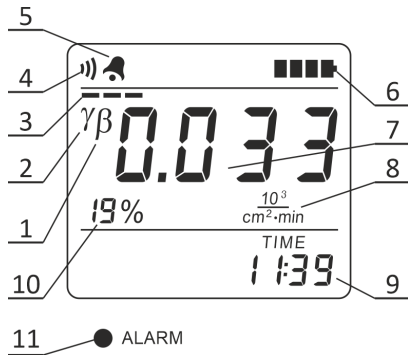

Figure 2.9 – LCD of the radiometer
2.3.3.7.8 When measuring characteristics of beta radiation, the LCD of the radiometer displays the following information (Figure 2.9):
- the estimated limit of statistical deviations (10) of the measurement result (7);
- " $\beta$ " symbol (1) - an indication of the measured radiation type;
- " $\gamma$ " symbol (2) - is displayed if measurement takes place without consideration of gamma radiation component;
- instantaneous value indicator (3);
- sound symbol (4) (if sound signaling of registered gamma quanta and beta particles is switched on);
- alarm clock symbol (5) (if the alarm clock is on);
- battery status symbol (6);
- measurement result (7);
- dimension of measurement result (8)  $10^3/(\text{cm}^2 \cdot \text{min})$ , cps or faded away, if the dimension is  $\text{Bq}/\text{cm}^2$ ;
- current time (9).
If surface activity measurement is carried out in  $\text{Bq}/\text{cm}^2$ , then "Act" characters are periodically displayed on the LCD of the radiometer and the dimension of the measurement result goes blank (8) (Figure 2.9).